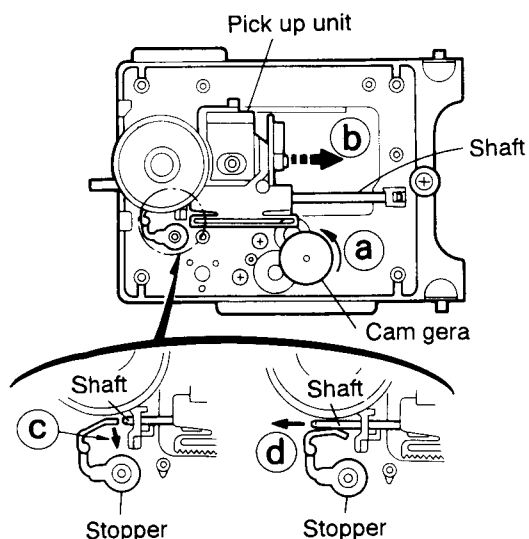

Fig. 2-19
■ Removing the CD pickup unit (See Fig. 2-19)
2. According to the above step, shift the CD pickup unit to the center position (Fig. 2-19).
3. While pressing the stopper retaining the shaft in the arrow direction (c), pull out the shaft in the arrow direction (d) (See Fig. 2-19).